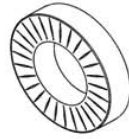
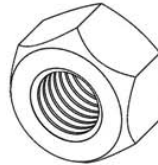

FIG 16
FIG 19
Install bearings to left and right panels as shown using M8 x 25mm Bolt (FIG 20), 8mm Washer (FIG 16), Star Washer, Bearing (FIG 17) and 8mm Nyloc Nut (FIG 19) as per configuration shown in fourteen (14) places.
Install bearings to 8mm holes in all bottom flanges of frame as shown (Diagram 1) using M8 x 25mm Bolts (FIG 20), 8mm Washer (FIG 16), Star Washer, Bearing (FIG 17) and 8mm Nyloc Nut (FIG 19) as per configuration shown below in eight (8) places.
Install bearings to middle panel as shown using M8 x 35mm Bolt (FIG 21), 8mm Washer (FIG 16), Star Washer, Bearing (FIG 17) and 8mm Nyloc Nut (FIG 19) as per configuration shown below in seven (7) places.